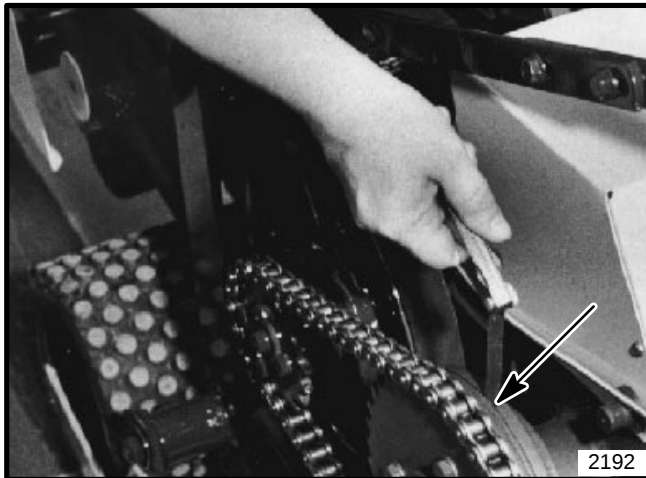

FIGURE 33
4. Using a feeler gauge, measure the distance between flywheel and clutch lining to determine how many shims to remove to obtain .005" (.127 mm) clearance. See Figure 33.